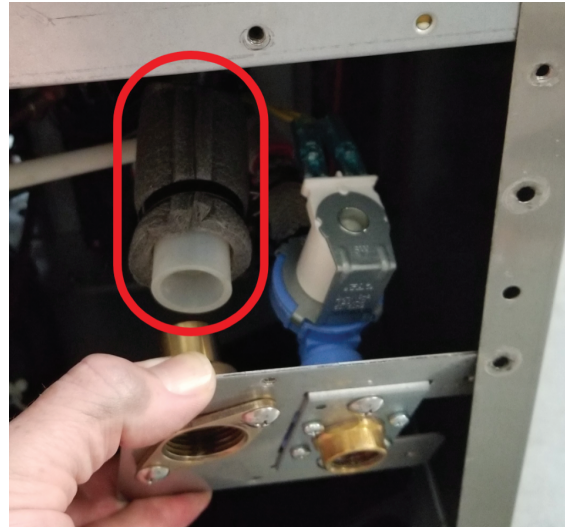

Figure 4
7. Gently pull the bracket forward and completely remove the tube between the ice bin and the back of the drain socket (Figure 4).